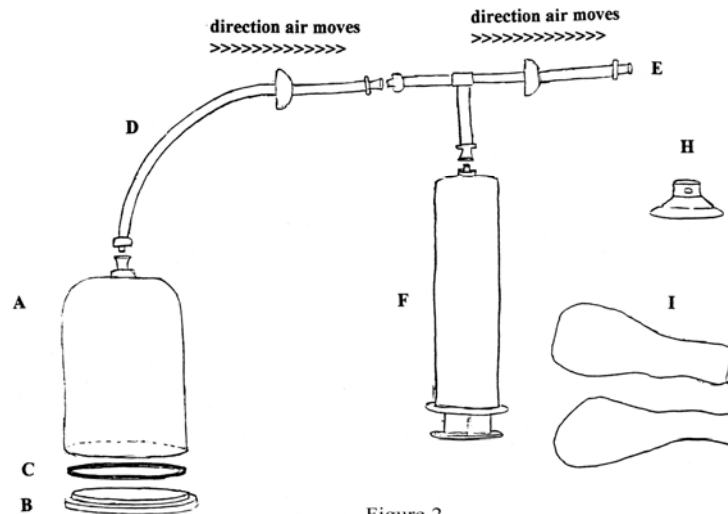

Figure 2
2. Place the balloon inside the bell jar and assemble the apparatus as shown in Figure 2. Start pumping the piston. What happens to the balloon?
4. Loosen the connection between hose (D) and the bell jar until you hear the movement of air. What happens to the balloon? Why does this change occur?